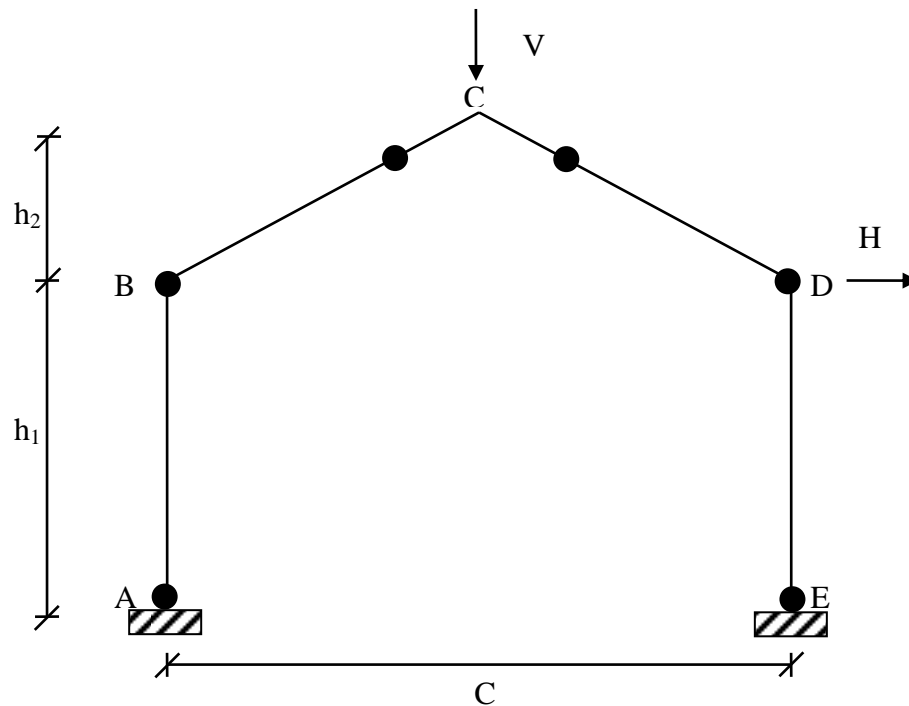

Figure 4.0
5. Figure 4.0 shows a single bay fixed base portal frame which has been constructed with steel grade S275, using the plastic theory of design. Details of the frames and loading are given below :-